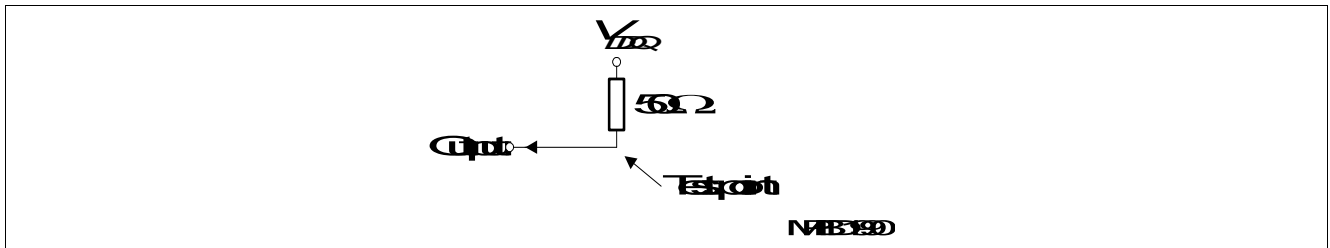

Figure 52 Pullup slew rate test load
- 1) Pullup slew rate is characterized under the test conditions as shown in Figure 52.
- 1) Pullup slew rate is characterized under the test conditions as shown in Figure 52